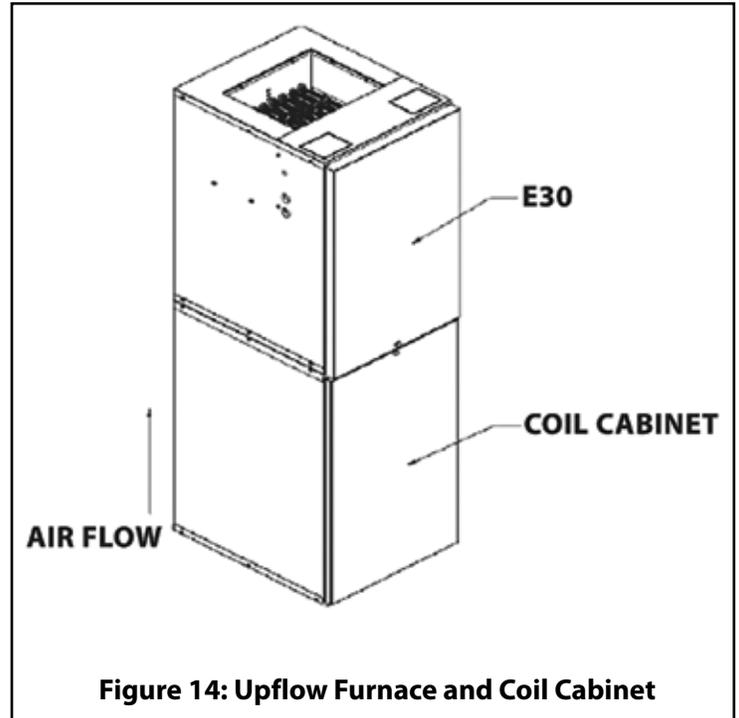

Figure 14: Upflow Furnace and Coil Cabinet
9. Position the furnace on the top of the coil cabinet as shown in Figure 14 with the air discharge pointing upward and secure it to the coil cabinet with the at least 4 field supplied screws.